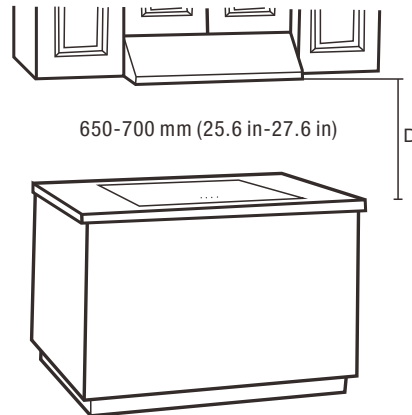

Fig.1
4. If you choose to hang the range hood as below (Fig. 1) distance(D) from the cooktop surface, use extra caution as the surface of range hood may be extremely hot to the touch. For this unit, (D in Fig. 1) is 650mm-700mm(25.6 in- 27.6 in).